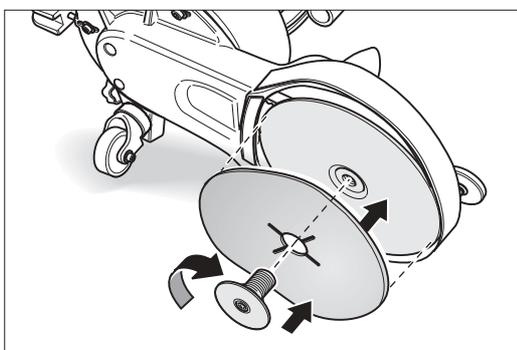

Fig. 48: Install the new sanding disc and then tighten the sandpaper tensing screw firmly by hand.
- 6 Place a new sanding disc on the sanding disc wheel and insert the sandpaper tensing screw into the sanding disc wheel. Make sure that the sanding disc is fastened in the best possible centred position on the sanding disc wheel (Fig. 48).